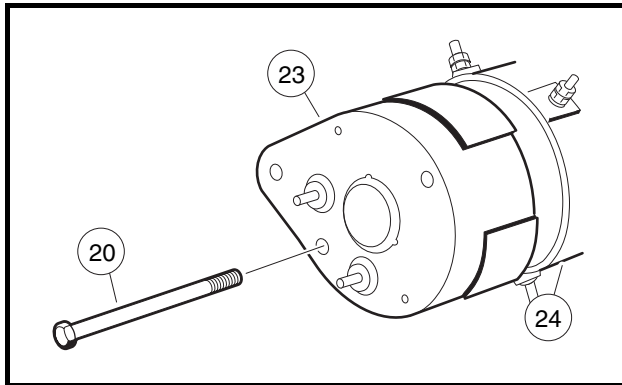

Figure 12-2 Commutator End Cover
1. Remove the two bolts (20) and pull commutator end cover (23) free of starter/generator housing (24) (Figure 12-2, Page 12-3). See following NOTE.
3. Install the commutator end cover (23) onto the armature shaft. Align the locating pin and hole in the cover. Install two M6 x 180 mm bolts (20) and tighten to 100 in-lb (11.3 N·m) (**Figure 12-2, Page 12-3**).
1. Remove the two bolts (20), and pull commutator end cover (23) free of the starter/generator housing (24) (**Figure 12-2, Page 12-3**). See following NOTE.
9. Install the commutator end cover (23) onto the armature shaft. Align the locating pin and hole in the cover. Install the two M6 x 180 mm bolts (20) and tighten to 100 in-lb (11.3 N·m) (**Figure 12-2, Page 12-3**).